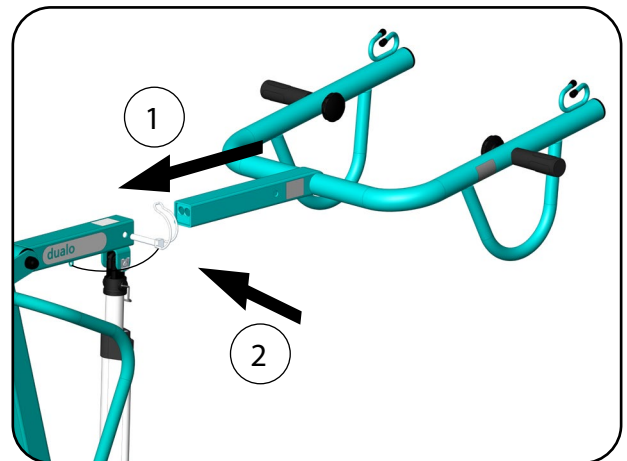

Fig. 8.8.02 – Inserting the active lifting arm
3. Insert the active lifting arm into the lifting arm holder (Fig. 8.8.02).
4. Secure the active lifting arm with the tube clip (Fig. 8.8.02).